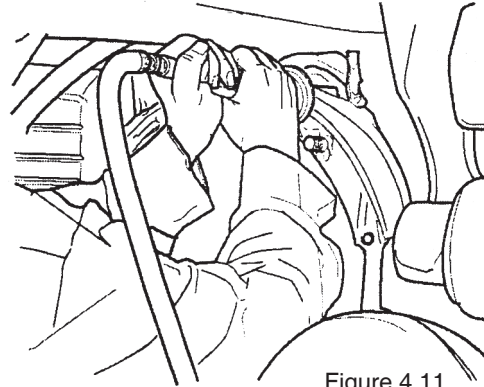

Figure 4.11
3. Use a rotary tool with a scour pad to clean all silicone residue from the housing and differential faces. Figure 4.11. Surfaces must be clean, dry and free of foreign matter. The surfaces must not be oily to the touch.